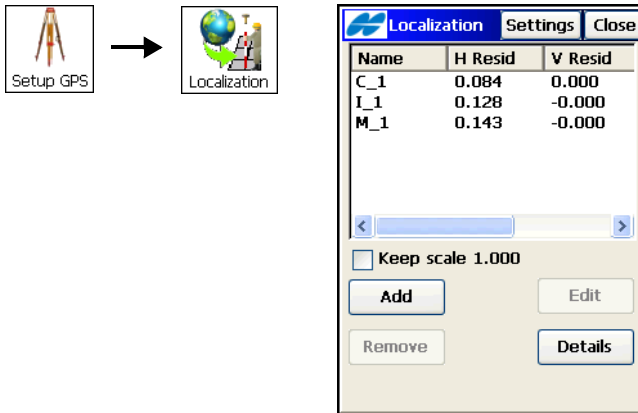
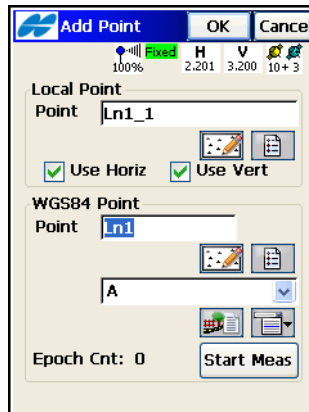

Figure 8-1. Localization Screen
Figure 8-2. Add Localization Points
1. Tap **Setup GPS ► Localization**. The **Localization** screen displays (Figure 8-1 on page 8-3).
2. On the **Localization** screen, tap **Add** (Figure 8-1). The **Add Point** screen displays (Figure 8-2 on page 8-3),
- On the **Add Point** screen, set the following parameters, then tap **OK** (Figure 8-2):
5. To view the parameters of the localization, tap the **Details** button on the *Localization* screen (Figure 8-1 on page 8-3).